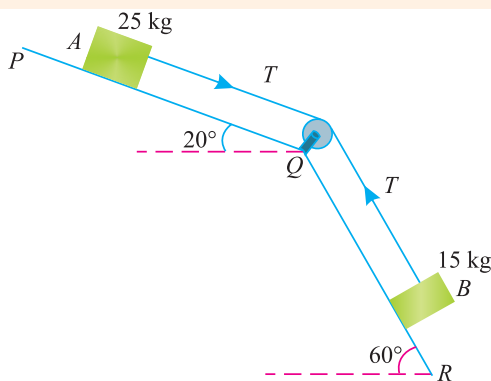

Fig. 25.16.
**Example 25.12.** Two bodies A and B are connected by a light inextensible cord as shown in Fig. 25.16.